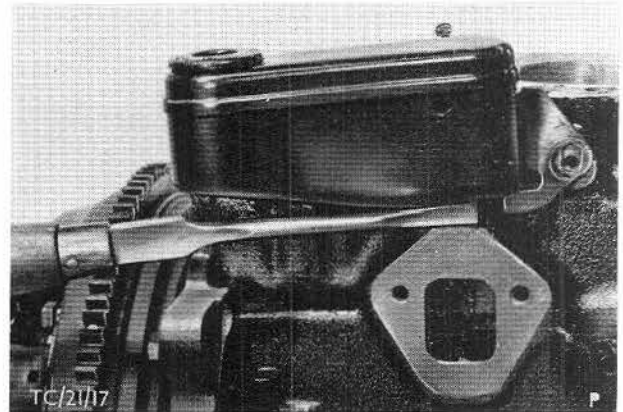

Fig. 24. Remove oil separator using a screwdriver.
14. Withdraw bolt from oil separator. Prise oil separator out of engine block, using a screwdriver, Fig. 24.